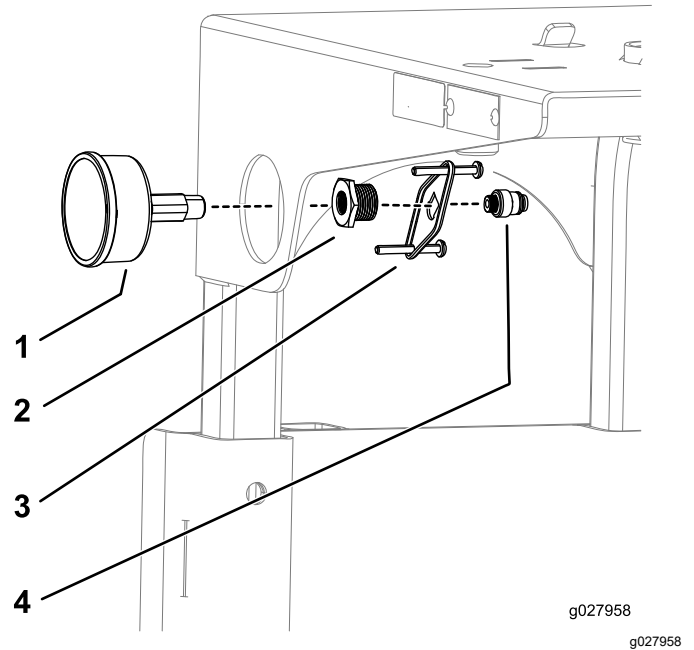

Figure 15
7. Apply PTFE tape to the threads on the pressure gauge and install the pressure gauge assembly as shown in Figure 15.